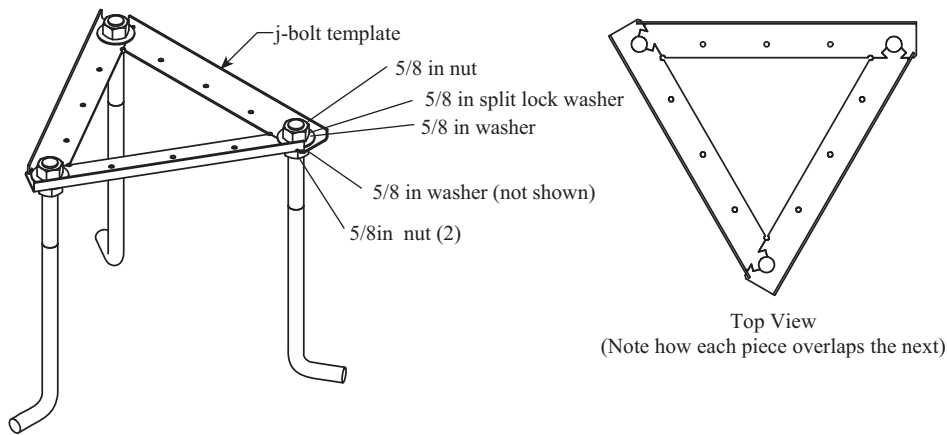

FIGURE 2-2. J-Bolt Template Assembly
2. Assemble the j-bolt template as shown in FIGURE 2-2. Begin by threading two 5/8 in nuts onto each j-bolt, followed by a 5/8 in washer. Next, place a template piece over the j-bolt, followed by another 5/8 in washer and a 5/8 in split lock washer. Thread a third 5/8 in nut onto the j-bolt just until the bolt is even with the top of the bolt. Once all three j-bolts are assembled, slide them together as shown in FIGURE 2-2. Align